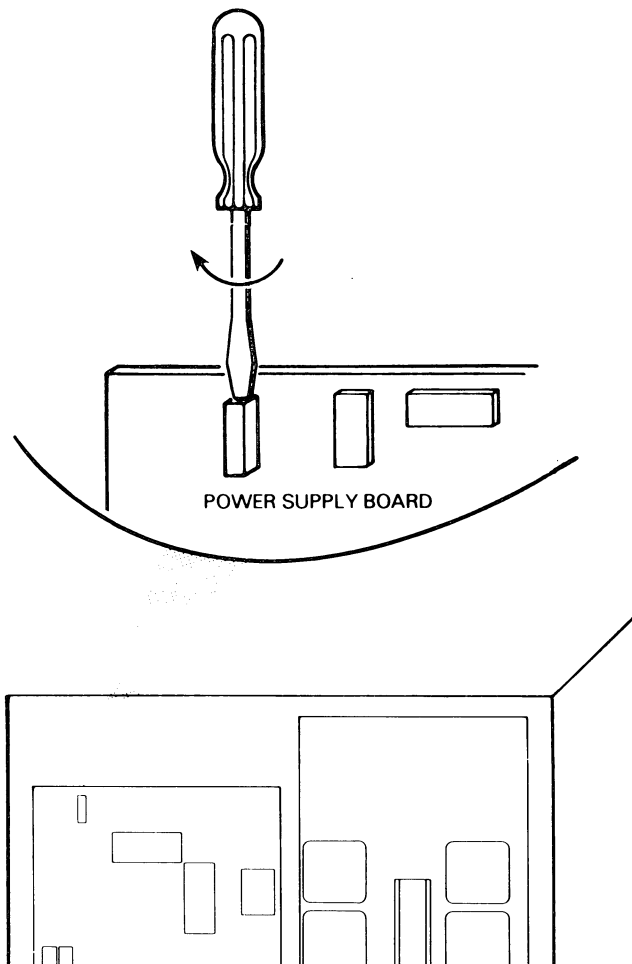

Figure 5.33 Power Supply 5V Adjustment
3. With printer idle, adjust 10-turn potentiometer on power supply PC board until the voltmeter reads 5.1 volts ± 0.1 volt (see Figure 5.33).